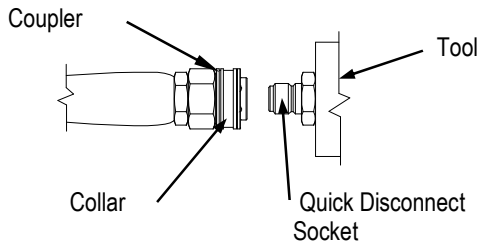

Figure 7a
- Pull quick connect collar back (Figure 7a).